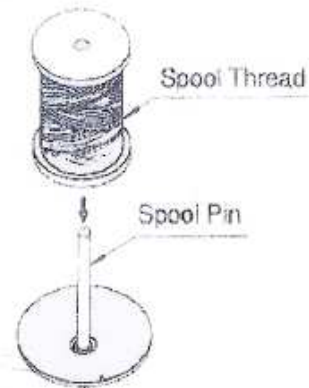

Fig.10
B. When using spool thread, remove plastic cup before placing spool on thread stand (Fig. 10).